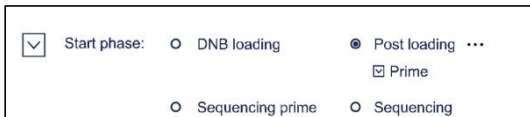

Figure 10-1: Select re-start Post loading
- If starts from the Post loading prime, select "Prime" in Figure 10-1. If starts from the step Post loading, don't select "Prime".